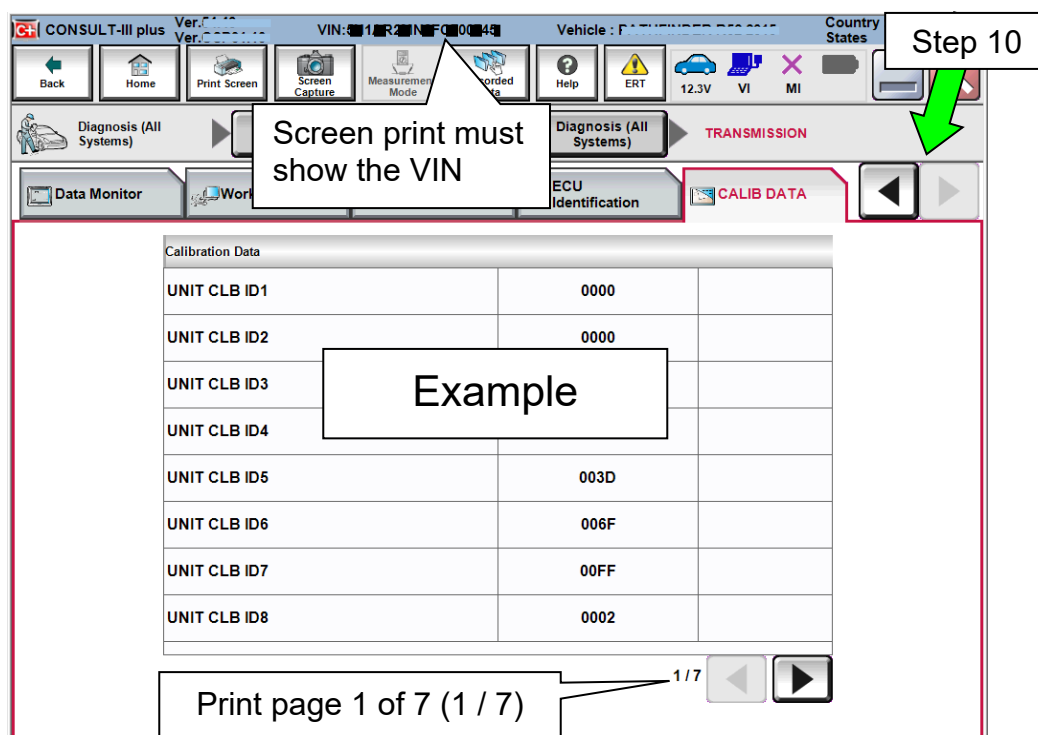

Figure 3
9. Print a copy of the screen shown in Figure 3 and attach it to the repair order.
10. Select scroll arrow shown in Figure 3.